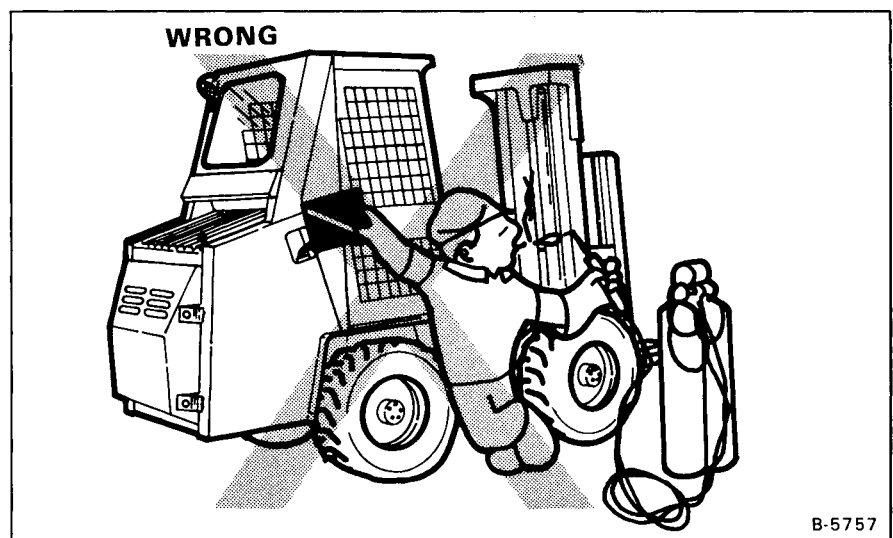

Fig. 1-12 Fuel Fill Warning
(3) Install the outer filter element. DO NOT replace the inner filter element (Fig. 1-12, Item 3) unless the red ring still shows (after the engine is running) in the condition indicator window after replacing the outer element.